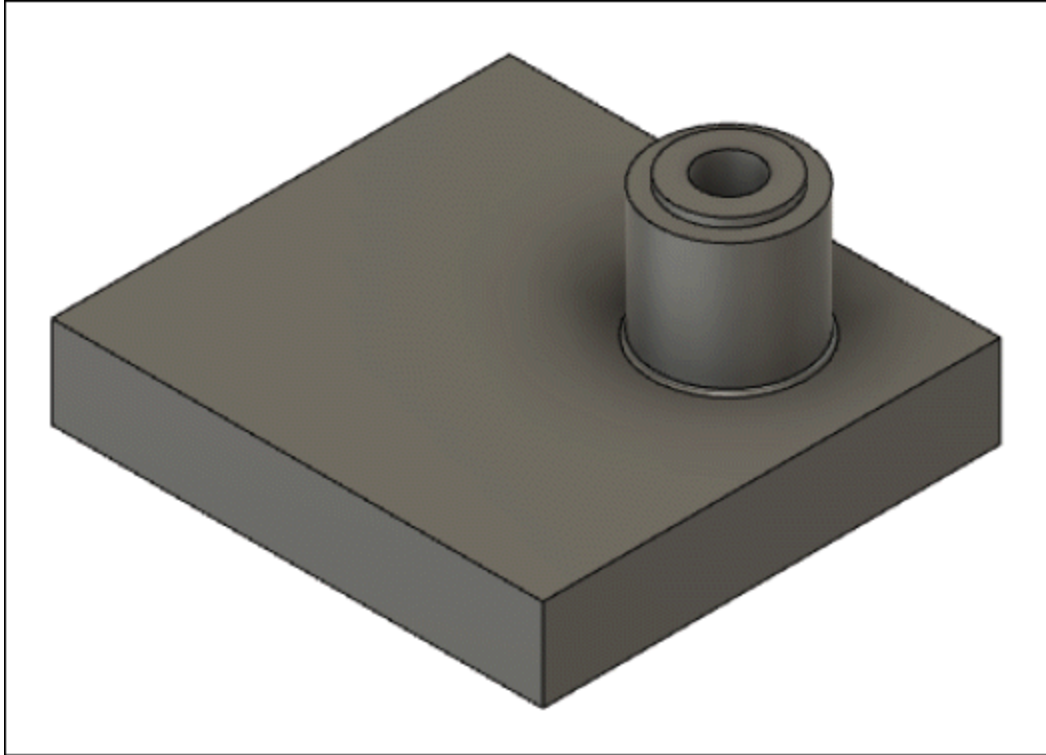

Figure-158. Boss feature created
- After specifying desired parameters in the dialog box, click on the **OK** button. The boss feature will be created; refer to Figure-158.